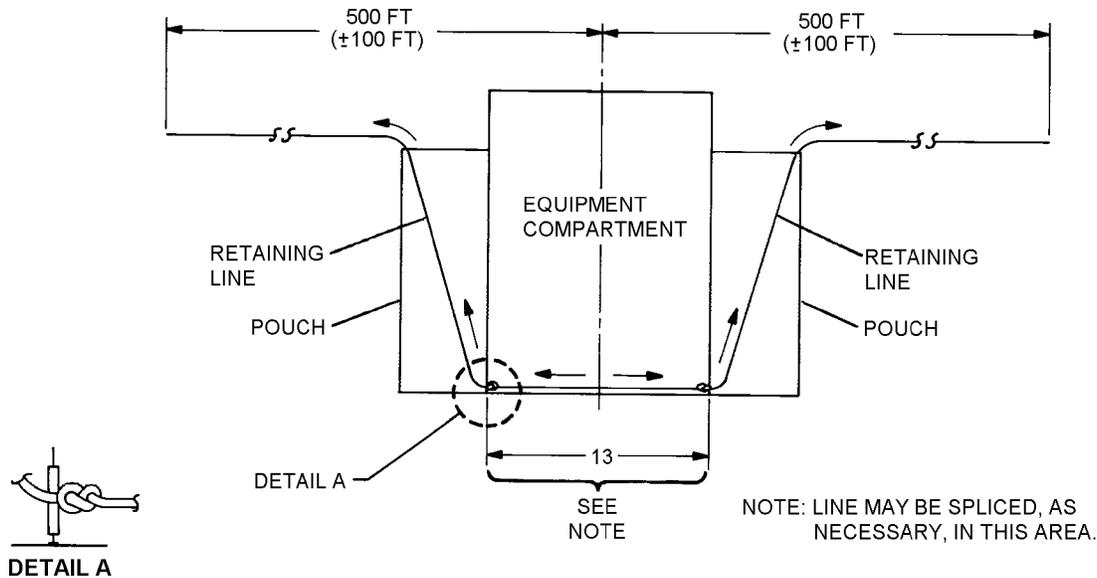

Figure 10-10. Attachment of Retaining Line
If necessary, line may be spliced between these two figure eight knots (figure 10-10).
d. Pass the retaining line ends through grommets in equipment container, then up through and out top of side pouch (figure 10-10).